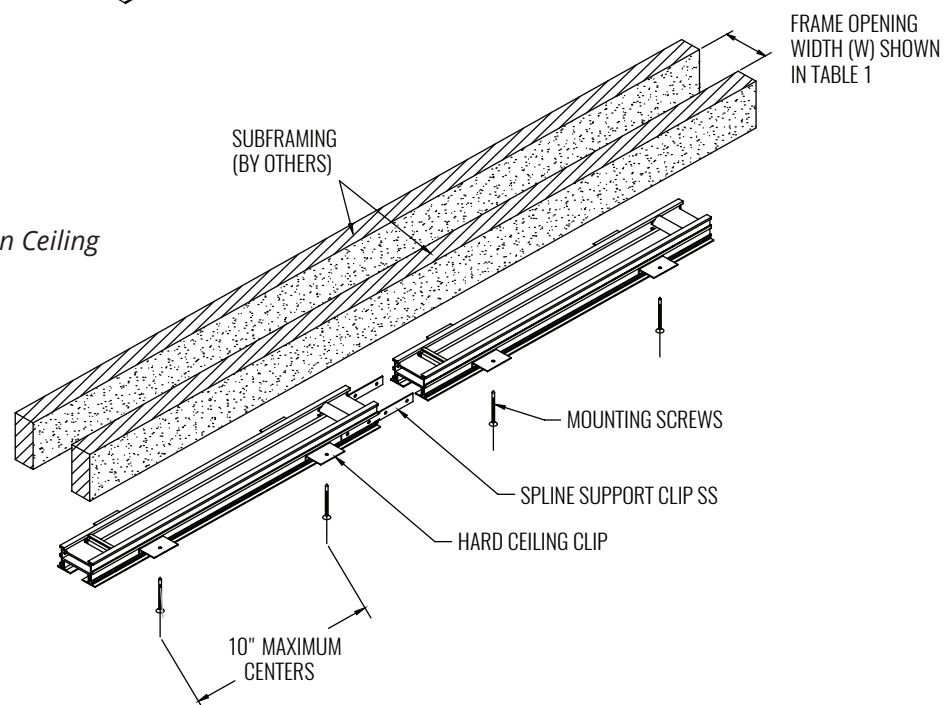

Figure 5. Installation of Diffuser in Ceiling
- Lift the DFL diffuser into the framed opening and secure the mounting clips to the subframing at maximum 10" intervals with flat head screws as shown in Figure 5.
- If multiple sections of DFL are required, repeat previous step by lifting additional sections into the framed opening. Be sure to insert Spline Support Clips-SS into the DFL ends to insure a tight and aligned connection as shown in Figure 5.